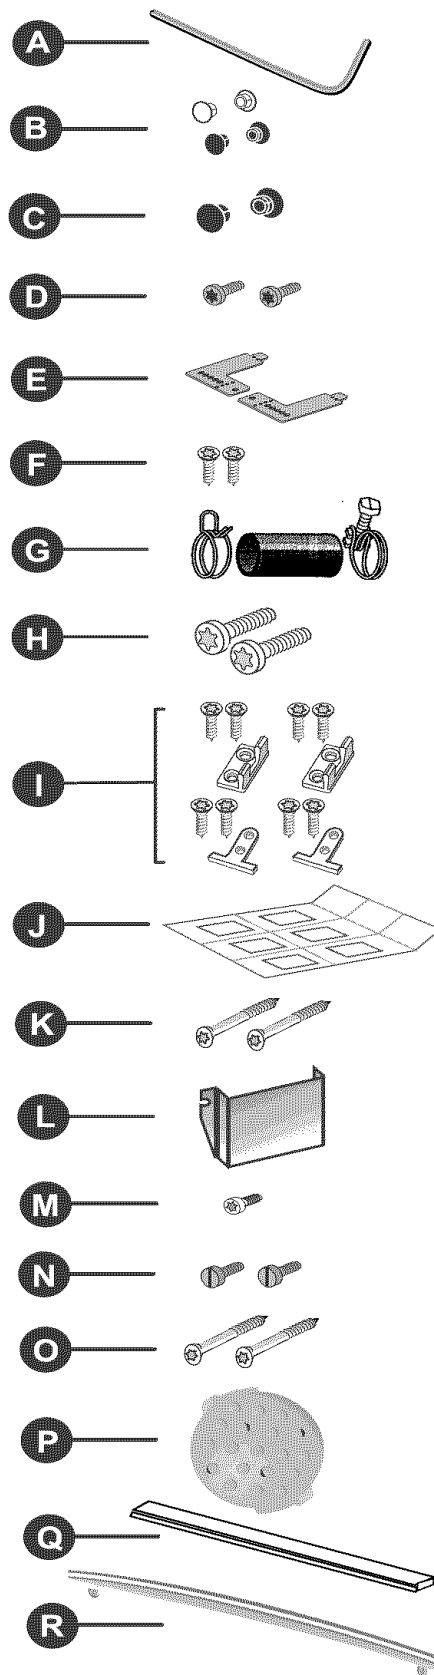
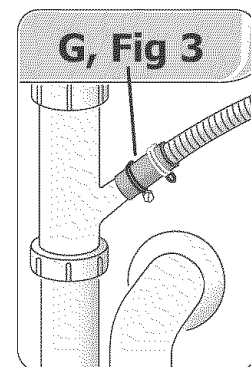

Figure 3
Figure 14
Accessory Parts for your model dishwasher will come in one or more plastic bags. Check to make sure that the parts supplied for your model are all there. See Figure 3. If any parts are missing contact your dealer immediately.
- Drive Mounting Screws (see Figure 3) through the holes in the brackets. See Figure 10A or 10B.
- Use the hose clamps and rubber connection hose (Figure 3) to connect the drain hose to the sink, disposer or air gap (Figure 14).